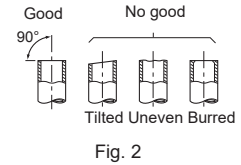

Fig. 2
- 4) Process the end of ground wire (Fig. 2). Connect it to the ground terminal of the electrical parts box.
- 5) Process the end of indoor/outdoor unit connecting wire (D) (Fig. 2). Attach it to the terminal block. Be careful not to make mis-wiring. Attach the wire to the terminal block securely so that its core cannot be seen, and no external force affects the connecting section of the terminal block.
- 8) Pass indoor/outdoor unit connecting wire (D) process the end of the wire.
- 9) Loosen terminal screw, and connect first the ground wire, then indoor/outdoor unit connecting wire (D) to the terminal block. Be careful not to make mis-wiring. Fix the wire to the terminal block securely so that no part of its core is appeared, and no external force is conveyed to the connecting section of the terminal block.